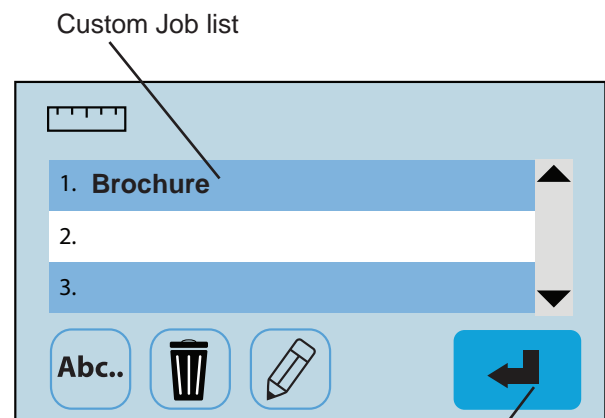

Fig. 29
6. Select the custom job and press the blue enter icon  to set the fold stops (Fig. 29).